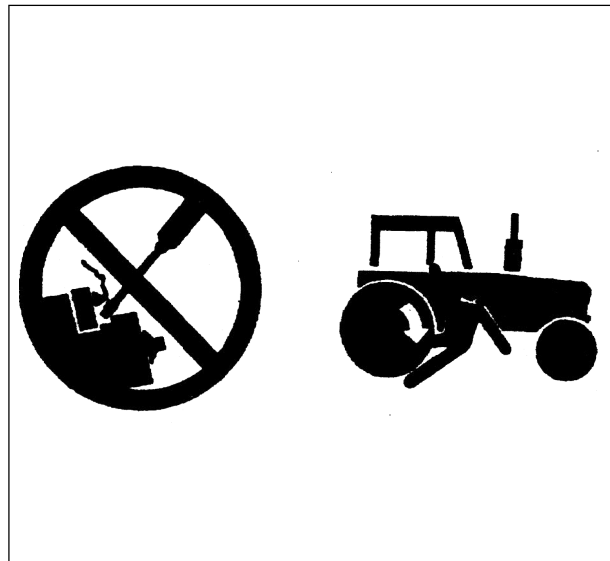

Fig. 14
**DANGER: Start the engine, with the starter key, from the operator's seat only. Never attempt to start the engine by shorting across the starter terminals. The machine will start in gear if the neutral start circuit is bypassed. This could cause serious injury or death to anyone near the tractor (Fig. 14).**